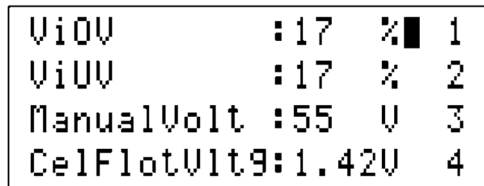

Figure 4: Parameter list
- By entering the setup menu the parameter list appears as illustrated in Figure 4, to navigate within the parameters press up or down button until the cursor (█ symbol) reaches the required parameter.